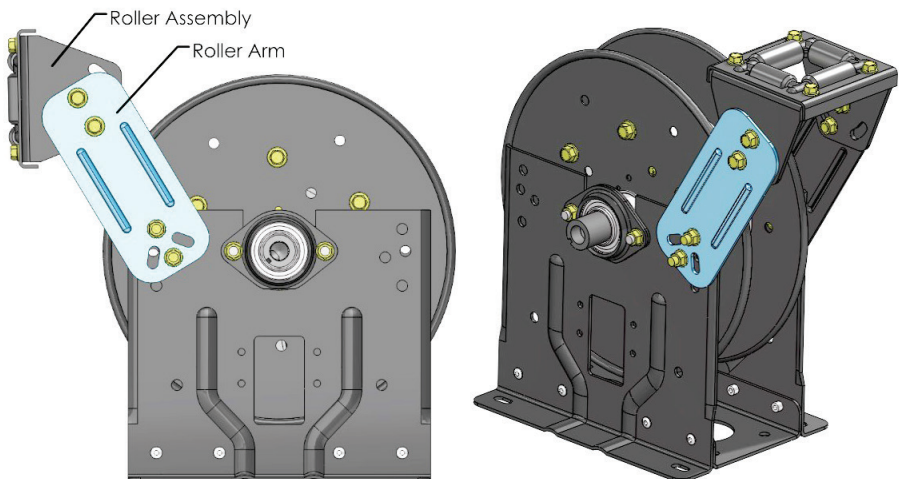

Figure 16 - Reel with Rollers in the “VR” Position
4. Move the Roller Arms to the “TR” position (Figure 16). On the back side of the reel, align the holes and install the bolts.
5. Rotate the roller assembly so that it is pointed in the same direction as shown in Figure 16.